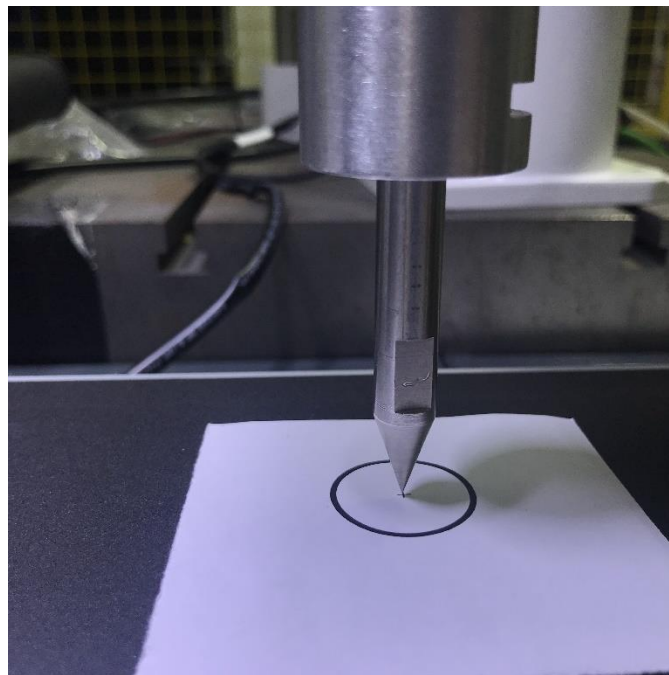

Figure 5.7 Conveyor calibration
- Step 3** Click to enable the motor and jog the robot to the label position on the conveyor, and click **Get First Point** on the **First Point** section, as shown in Figure 5.7. We called this point as point A, which is the origin of the User coordinate system.